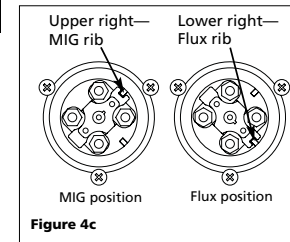

Figure 4c
4. Pull out polarity bus bar and rotate it 90°. Reinsert aligning groove with the correct rib in polarity box. Upper right rib marks the MIG position; lower right rib marks the Flux position. (See Figure 4c.)